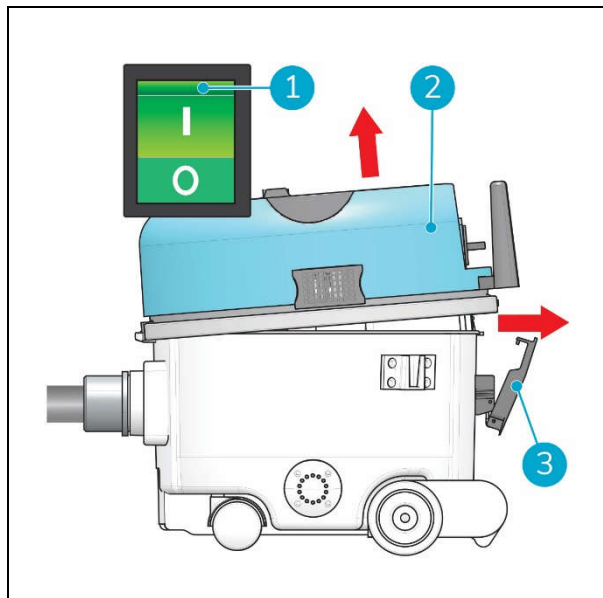

Figure 9
1. Turn off the i vac® 6 with the main power switch (fig 9, pos 1).
2. Release the latch (fig 9, pos 3).
3. Lift the head (fig 9, pos 2) under the grey rim, on the side of the latch.